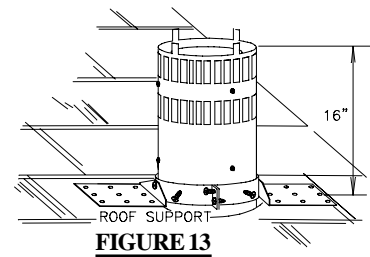

FIGURE 13
6. Apply a heavy bead of weatherproof caulking 2 inches above the flashing. Slide the storm collar around the air terminal and down to the caulking. Tighten to ensure that a weather-tight seal between the air terminal and the collar is achieved. Attach the other storm collar centered between the air intake and the air exhaust slots onto the air terminal. Tighten securely. **FIGURE 13.** Attach the vertical rain cap.